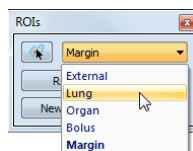

Figure 210 – Selecting the current ROI in TomoCon
1. Select the ROI from the **ROIs** drop-down list in the **ROIs** tool in the tools panel (see Figure 210).